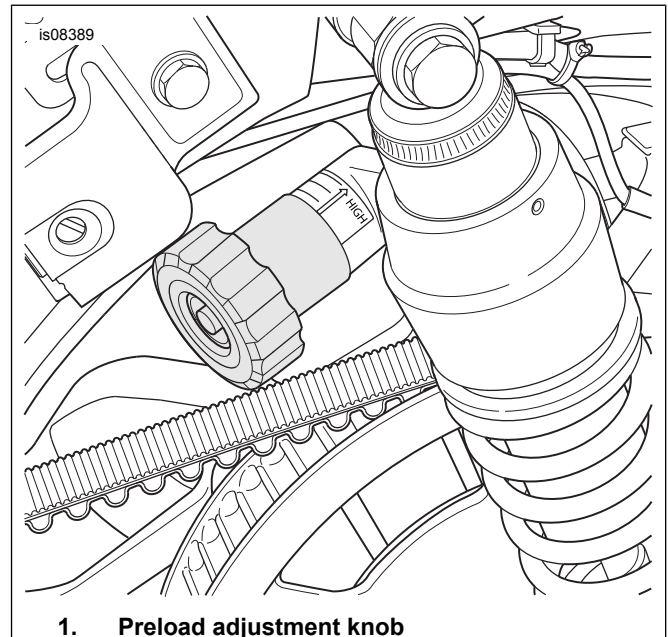

Figure 2. Preload Adjustment Knob
- See Figure 3. Install the shock absorber (1) on the left side of the vehicle with the preload adjustment knob toward the front as shown in Figure 2. Start the bolt into the swingarm mount.
- See Figure 2. Rotate the preload adjustment knob counterclockwise until it stops. This position is the minimum preload.